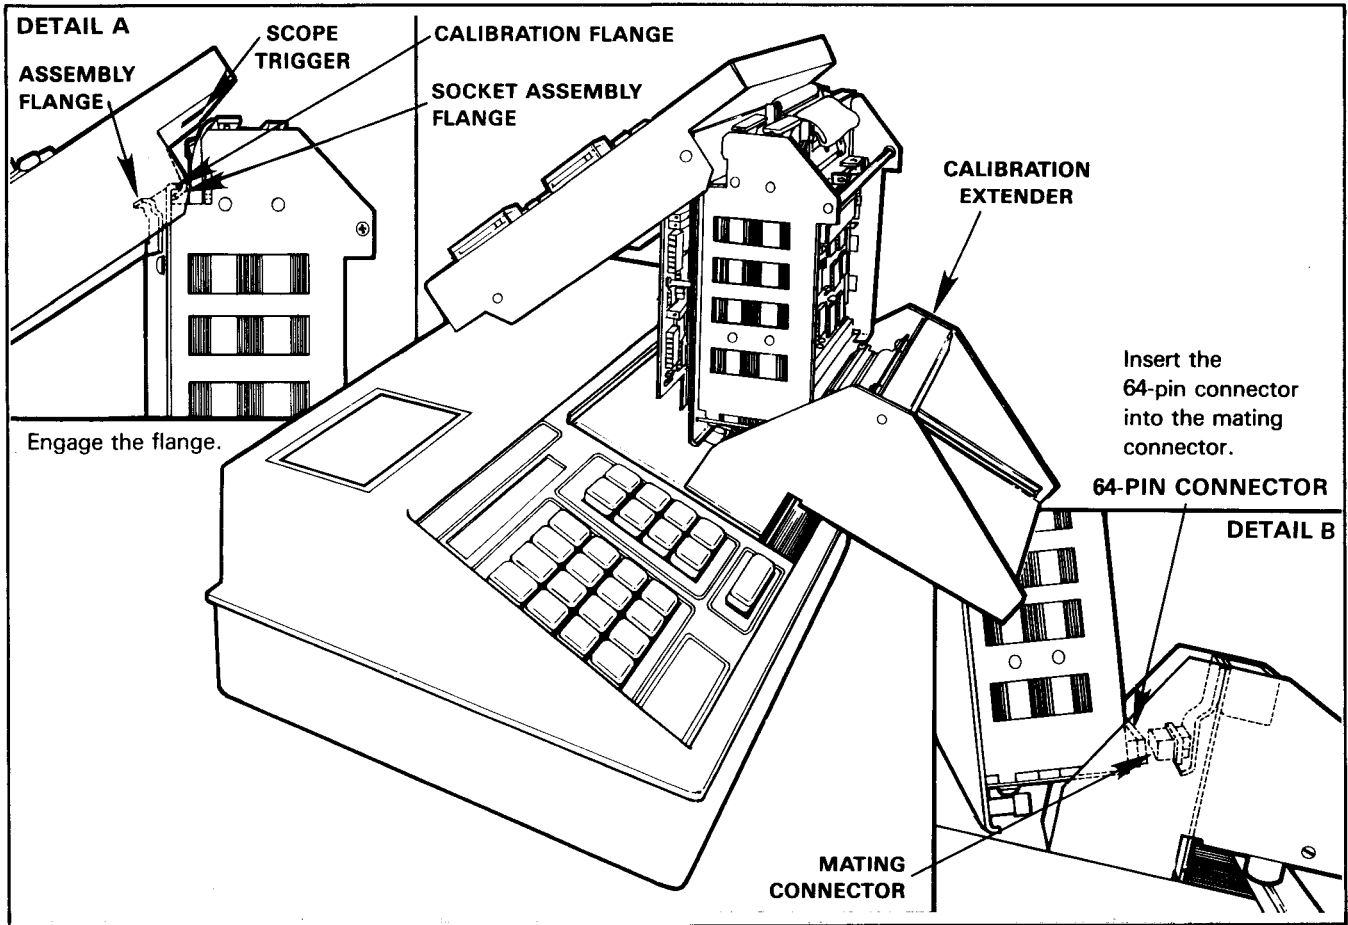

Figure 4-5. Calibration Setup
5. Insert the 64-pin connector of the card cage into the mating connector on the calibration extender (figure 4-5, detail B).
6. Lean the top portion of the UniPak 2™ against its bottom portion at a 45-degree angle; see figure 4-5.
Be sure the socket assembly flange locks into the card cage flange (see figure 4-5, detail A).